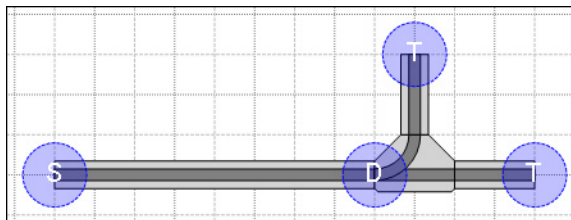

Figure 3-15: Nodes Placed Automatically
***Merge**, **Diverge**, **Merge-Diverge**, **Simple**, and **Terminus** nodes are automatically placed in the track layout based on the position of switches and path ends (see the simplified representation in Figure 3-15).*